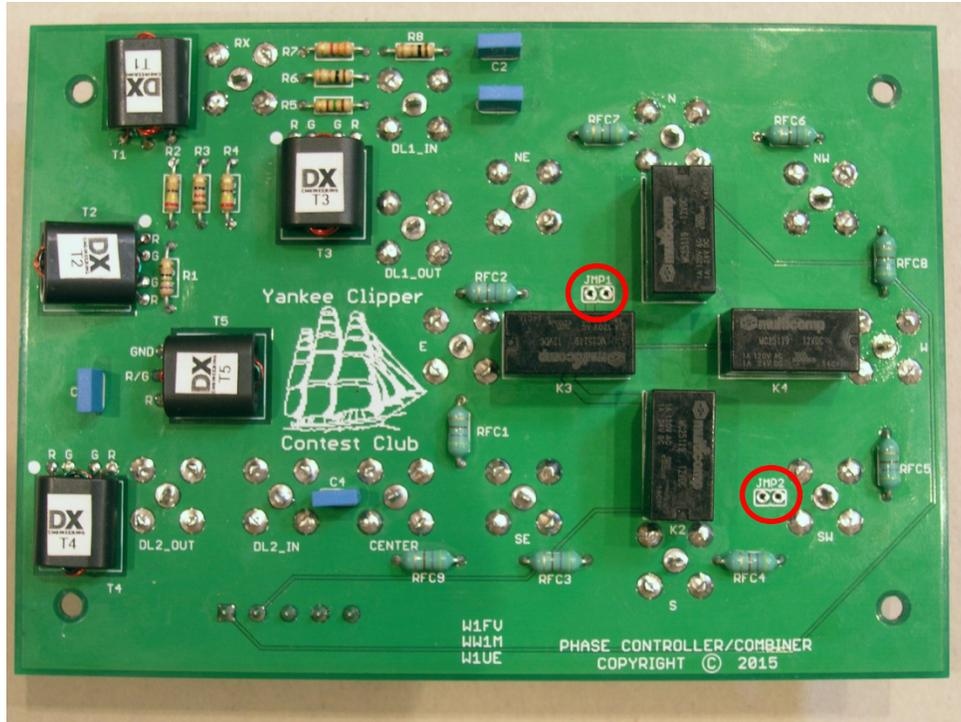
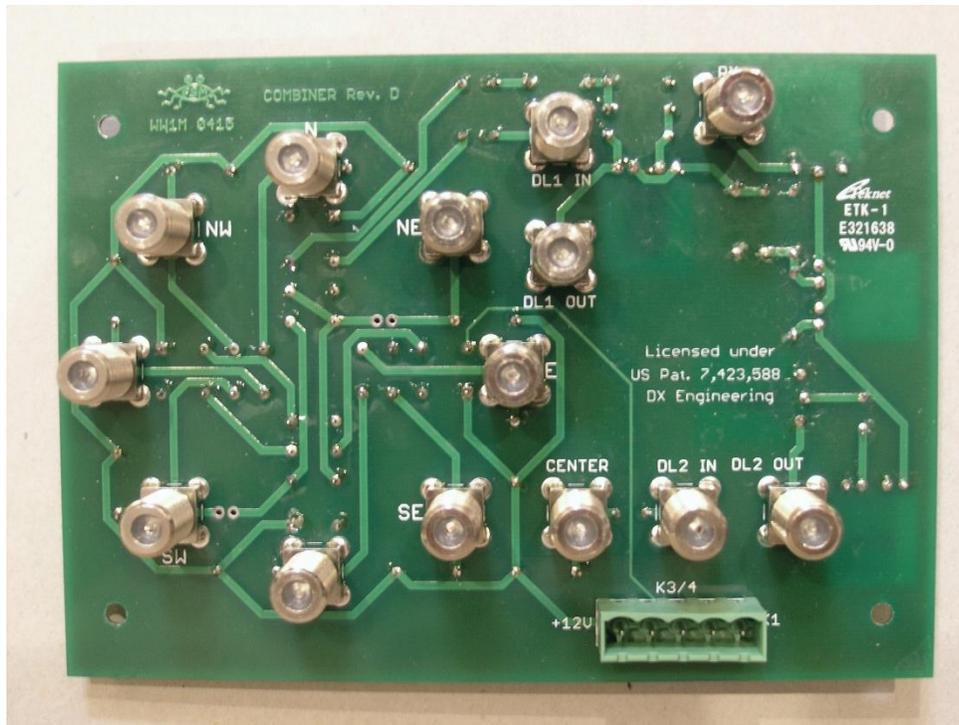

Figure 16. Component side of combiner PCB (jumper locations circled in red—see text)
Figure 17. Bottom side of combiner PCB
designator (for example, C1 or RFC1) is stenciled on the board. The top side of the PCB is also identified by the Yankee Clipper Contest Club logo stenciled onto the board. All components except the F connectors and terminal block mount to the top side of the PCB. Refer to Figure 16 and Figure 17 as you follow these instructions. Note that the labels on the transformers shown in Figure 16 are for reference for identifying the transformers but the labels are not included in the kit.
22. Install and solder all 14 female connectors to the bottom side of the PCB as shown in Figure 17. Do not yet install the nuts.
23. Install and solder the 5-pin terminal block J1 to the bottom side of the PCB as shown in Figure 17. Make note of the labelling of the connections (+12V, GND, K3/4, K2, K1) for future reference. The mapping to connector pin numbers is:
24. If you are building the 3-element inline system, install two short wire jumpers through the holes circled in red in Figure 16. The jumpers bypass the unneeded relay switching circuitry on the PCB when there are only three antenna elements to be switched. If you are building either the 5-element square or 9-element circle systems, do not install the jumpers and leave the holes as
26. The two sides of the finished combiner PCB should now look like Figure 16 and Figure 17.